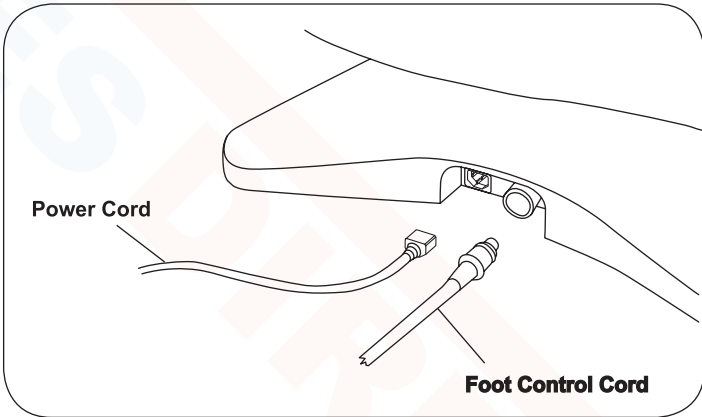

Figure 6. Power Cord & Foot Control Cord Receptacles
1. Insert the female plug end of the power cord into the receptacle on the table (Figure 6).
2. Insert the end of the foot control cord into the foot control receptacle on the table (Figure 6). Make sure the tab on the plug is aligned with the slot in the receptacle.